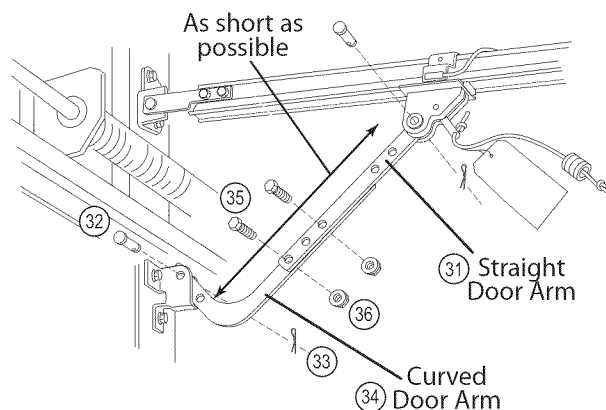

Figure 23 Assemble Arms (SECTIONAL)
- A** Attach Curved Door Arm to Door Bracket with Clevis Pin and Cotter Pin (**Figure 23**).